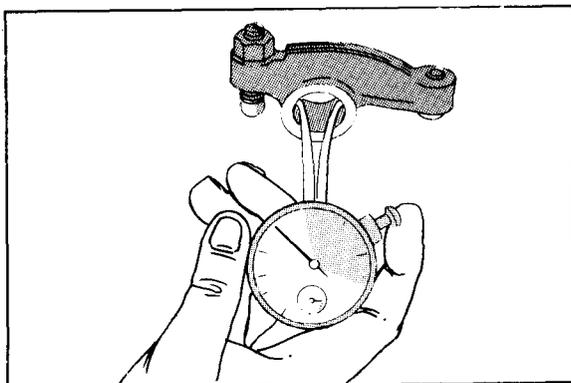

Figure 6-6
3. Using a dial indicator, measure diameter of rocker lever bore. Diameter of bore should measure 0.7480 in. (18.999 mm) minimum and 0.7500 in. (19.050 mm) maximum (Figure 6-6).